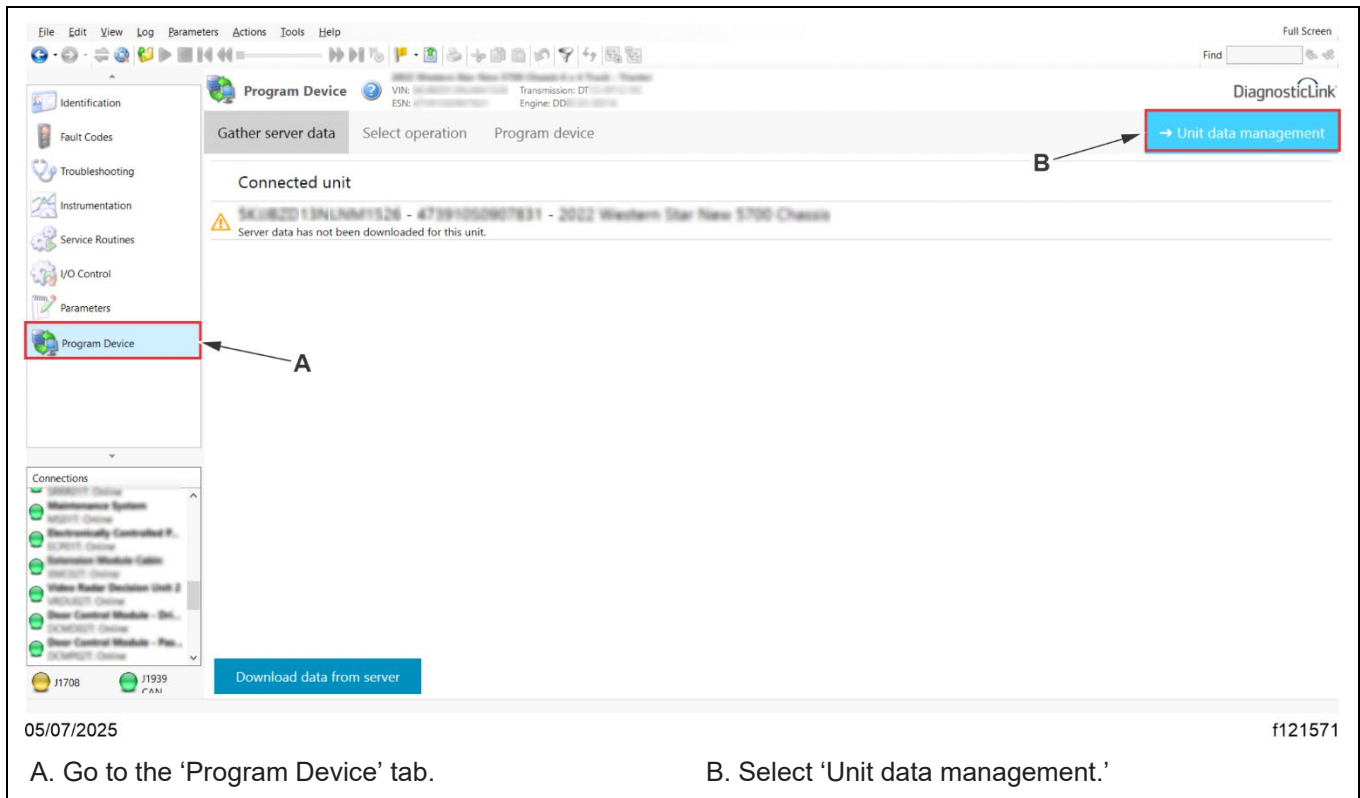

Fig. 3, Navigating to the Unit Data Management Screen
14. Once the parameter change is complete, go to the 'Program Device' tab. Select 'Unit data management' in the upper-right corner. See Fig. 3.